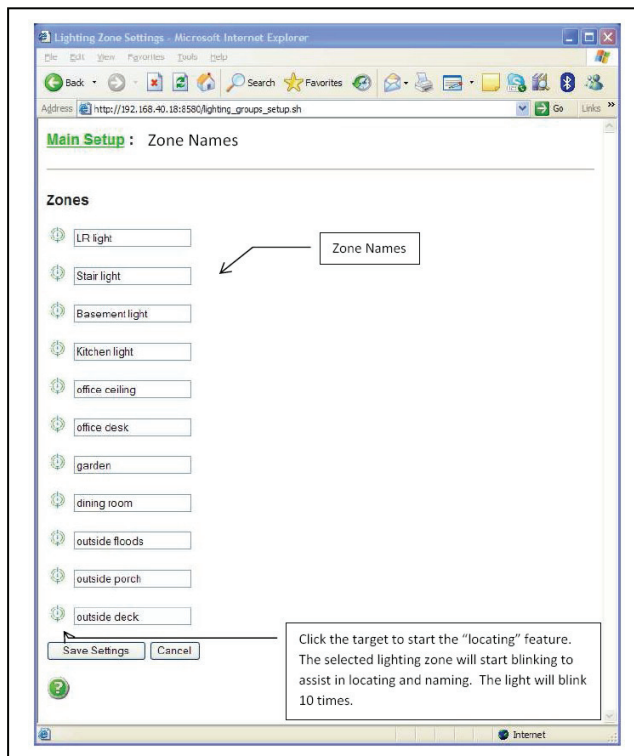

Figure 5
- C. If you return to “Lighting” and select “Zones” after an RF Scan, you will see a list of all the zones (load devices) that the Event Controller found during the RF Scan (see **Figure 5**).
- D. Each Zone is initially given a four digit number. By clicking on the target icon next to the number, that load flashes ten times to allow you to locate it and decide what to name it. Simply overwrite the number of that load with an appropriate name. When you are done locating and re-naming all the loads in the system, click on “Save Settings” as shown on **Figure 5**.